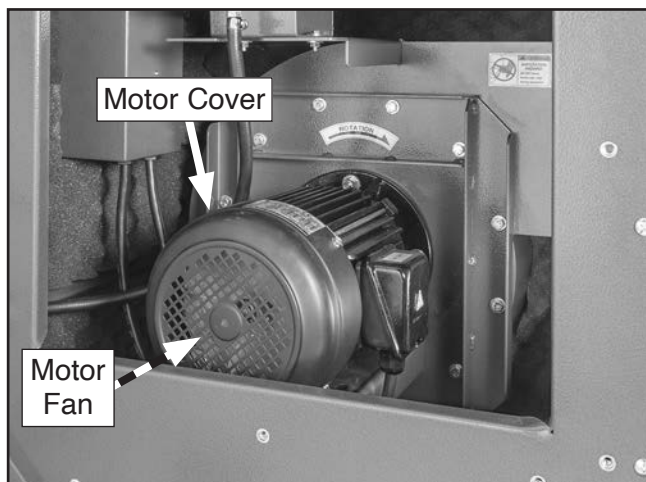

Figure 25. Location of motor fan and cover.
4. Observe motor fan through motor cover (see **Figure 25**).